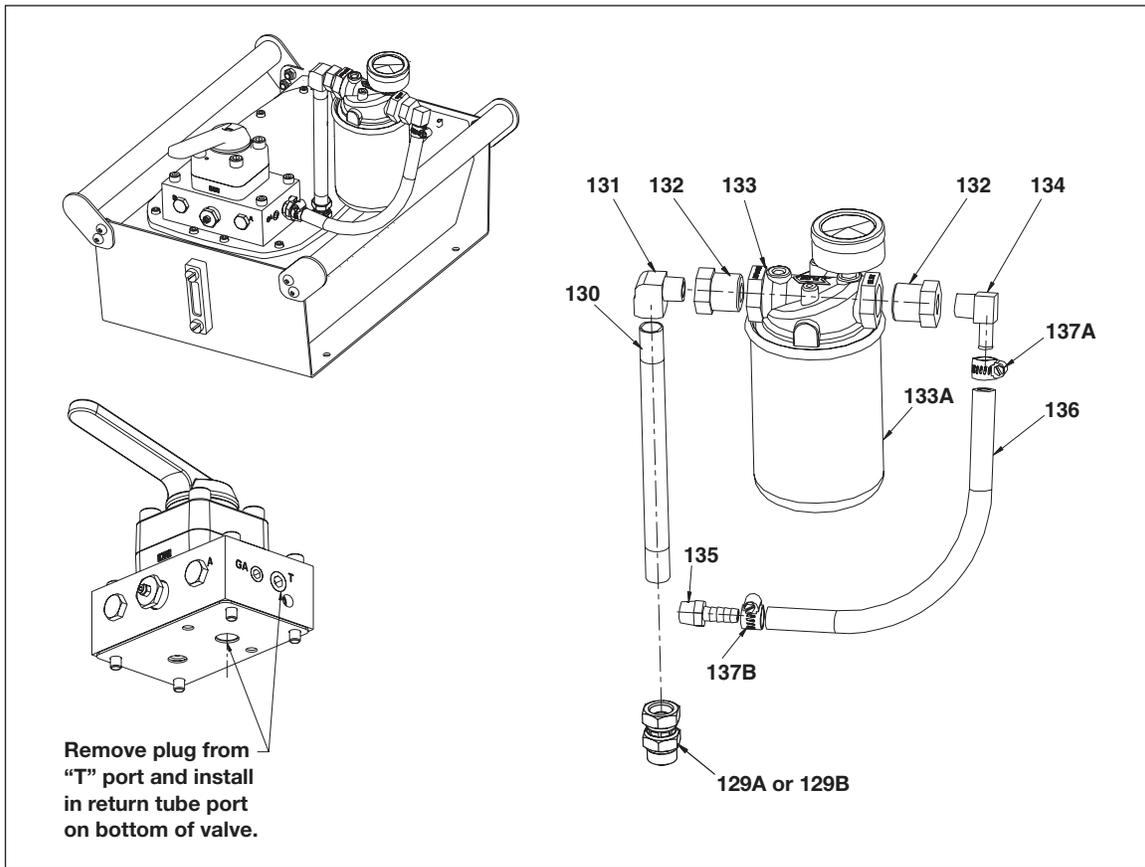

Figure 2 - ZPF Standard Filter Kit
**Note:** Parts shown above are included in the ZPF High Flow Filter Kit. This kit is to be used on pumps manufactured after March 1, 2007. When ordering filter parts for older pumps, refer to Figure 2 on the next page.
| Repair Parts List for Figure 2 |             |      |  |
Assemble the ZPF Standard Filter Kit as described in the following steps. Refer to Figure 2 for part descriptions and locations.